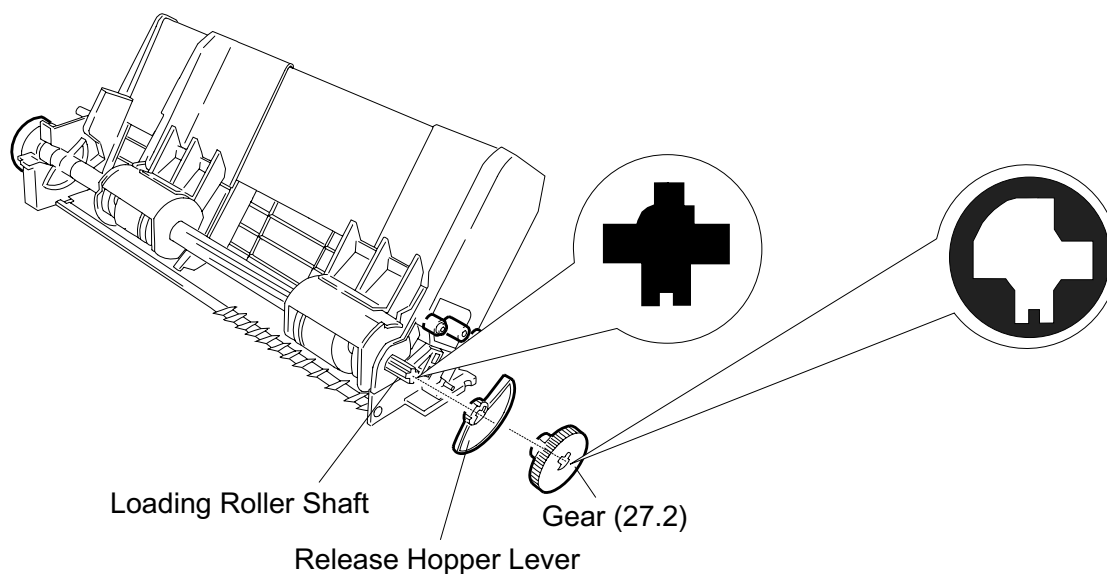

Figure 3-22. Engagement of Loading Roller Shaft and Gear (27.2 mm)
- ❑ When engaging the gear (27.2 mm) and loading (LD) roller shaft, note the side they face. Make sure they are correctly adjusted and securely locked. (See Figure 3-22.)